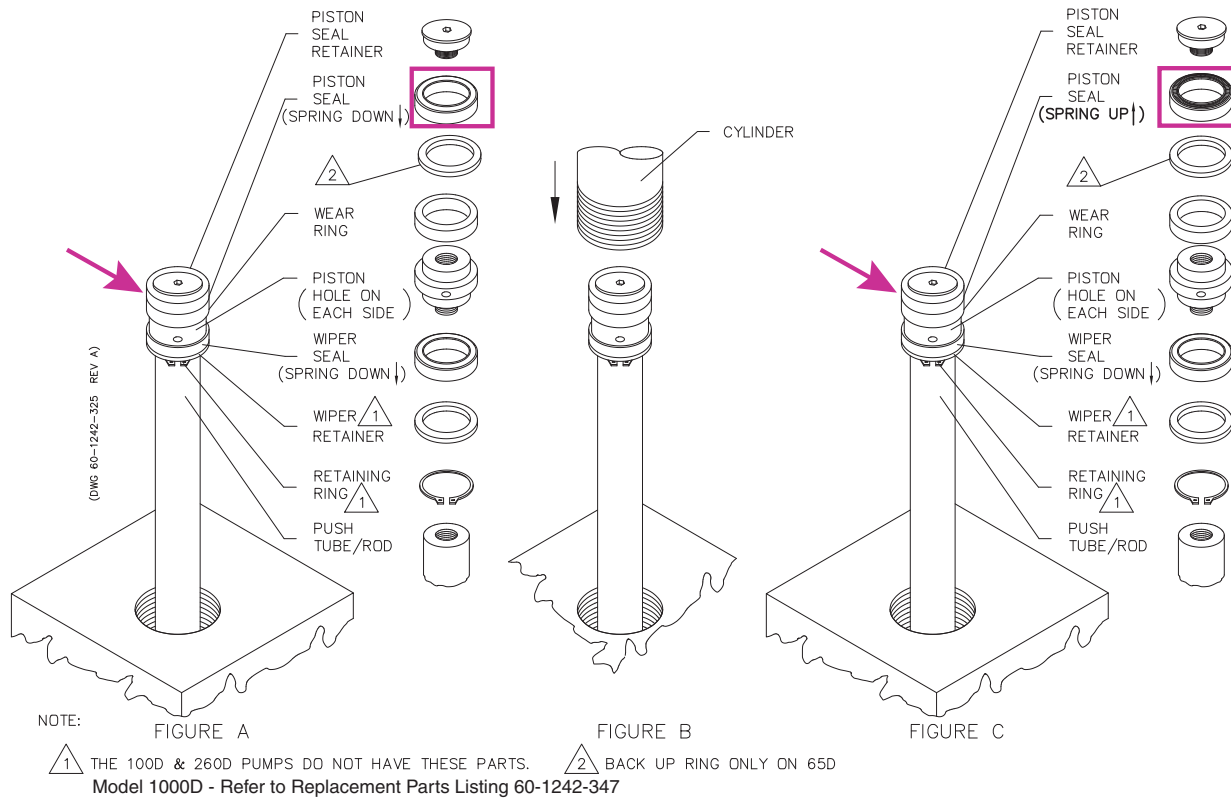

Figure 9-9 Break-in procedure for aqueous seals (Drawing does not apply to the 30D)
1. Unscrew the piston seal retainer (Figure 9-9) from the piston and remove the seal from it. Notice that the spring imbedded in the seal is facing up or is on the top side of the seal.
2. Locate the piston (Figure 9-9).